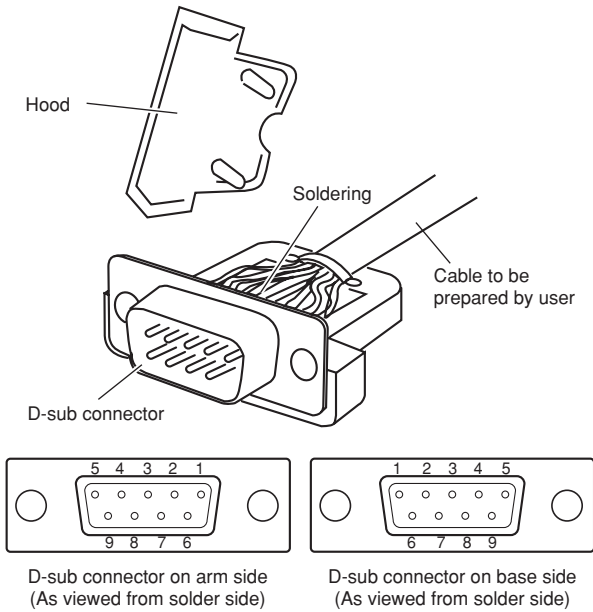

Fig. 3-10
- 5) On the R6YXC180 and R6YXC220 robots, solder the user-prepared cable wires to the D-sub connector (supplied) and attach the hood (supplied) to the connector as shown in Fig. 3-10. Then make connection to the user wiring connector.